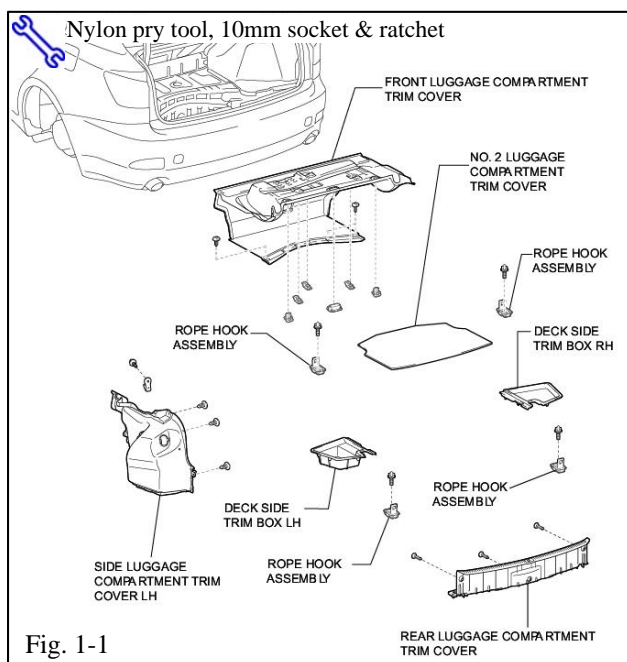

Fig. 1-1
- (a) Remove the No. 2 luggage compartment trim cover (Fig. 1-1).
- (b) Remove the deck side trim box LH (Fig. 1-1).
- (c) Remove the deck side trim box RH (Fig. 1-1).
- (d) Remove the rear luggage compartment trim cover (Fig. 1-1).
- (e) Remove front luggage compartment trim cover (Fig. 1-1).
- (1) Disengage the upper clips holding the trim to the package tray.
- (2) Disconnect the trunk lamp connector.